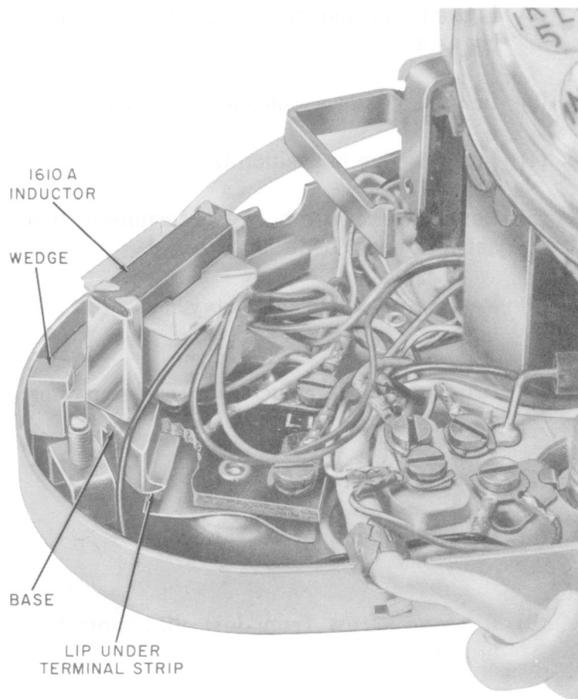

Fig. 5—Location of 1610A Inductor
- (1) Remove housing from telephone set.
- (2) Loosen dial and mounting cord stay hook, lay aside.
- (3) Install inductor as shown in Fig. 5 and 6.